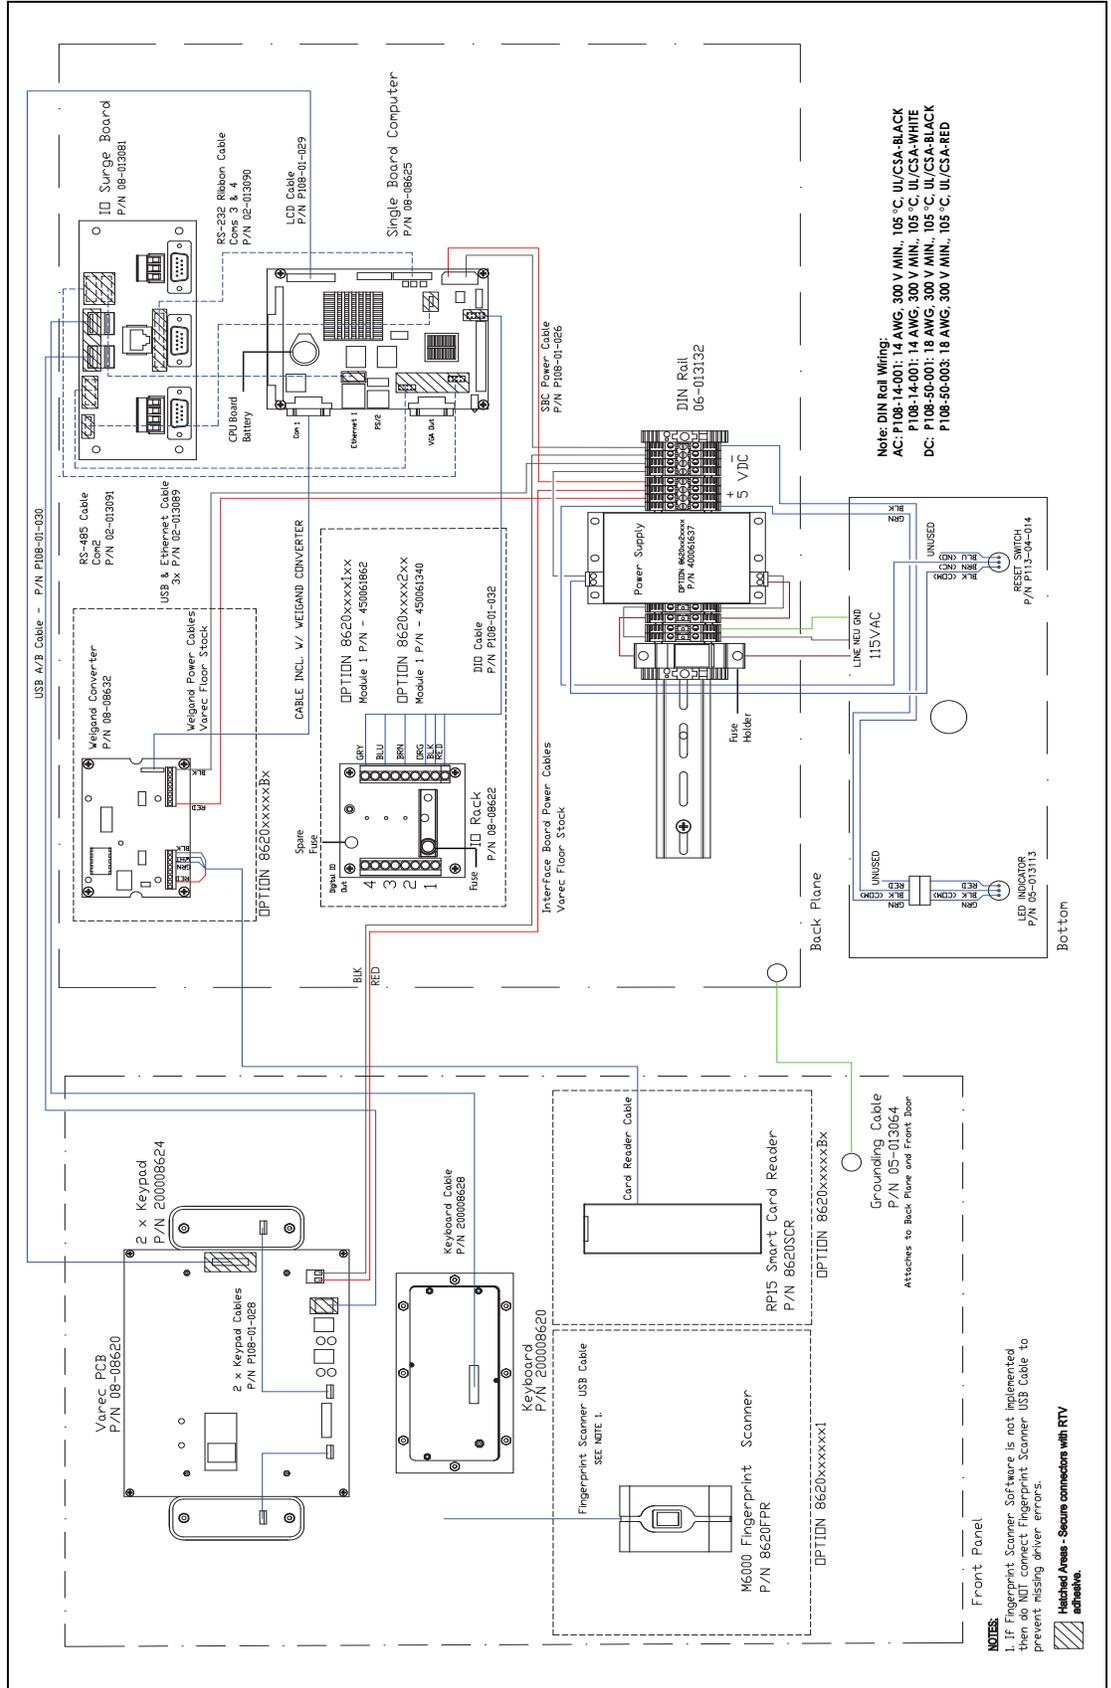

Figure 3-1: 8620 DET AC Wiring Diagram
1. Connect the hot wire to the fuse holder as shown in Figure 3-1 on page 10.
2. Connect the neutral wire to the black terminal as shown in Figure 3-1 on page 10.
RS-485 is the default setting used for Com 2 as shown in Figure 3-1 on page 10.
The 8620 DET has two 100-Base-T Ethernet jacks. One is located on the side of the single board computer. The second one is located on the communications terminal as shown in Figure 3-1 on page 10. Standard 8-pin RJ-45 connectors are used for ethernet wiring.